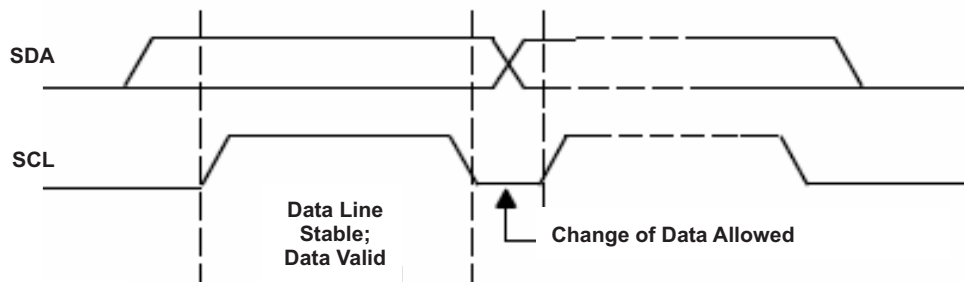
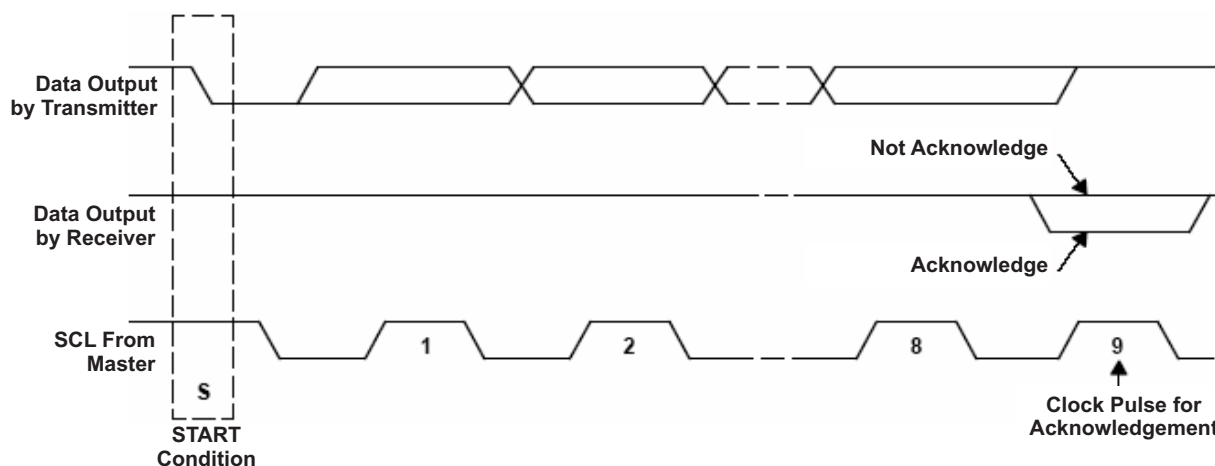

Figure 26. I2C Bit Transfer
Figure 27. I2C Acknowledge
- The *master* initiates data transfer by generating a *start condition*. The *start condition* is when a high-to-low transition occurs on the SDA line while SCL is high, as shown in Figure 27. All I2C-compatible devices should recognize a *start condition*.
- The master then generates the SCL pulses and transmits the 7-bit address and the *read/write direction bit* R/W on the SDA line. During all transmissions, the master ensures that data is *valid*. A *valid data condition* requires the SDA line to be stable during the entire high period of the clock pulse (see Figure 26). All devices recognize the address sent by the master and compare it to their internal fixed addresses. Only the slave device with a matching address generates an *acknowledge* (see Figure 27) by pulling the SDA line low during the entire high period of the ninth SCL cycle. On detecting this acknowledge, the master knows that a communication link with a slave has been established.